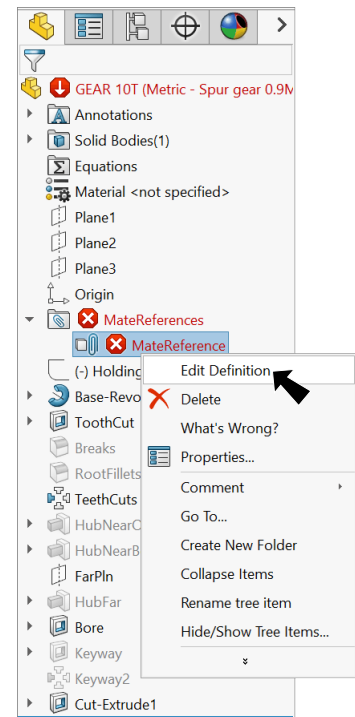

Fig. 11
Step 2. Expand **MateReferences** folder in the Feature Manager, **right click MateReference** and click **Edit Definition** from menu, **Fig. 11**.